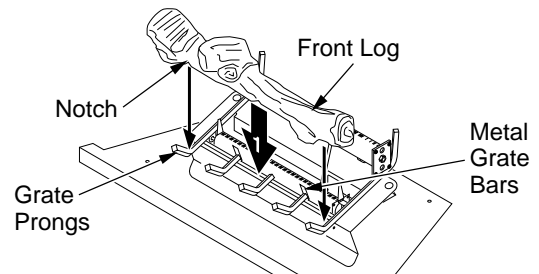

Figure 29 - Installing Front Log
1. Place front log on top of the grate. Make sure the notches in the bottom of the log fit over the grate prongs (see Figure 29). Push back of logs flush with metal grate bars.